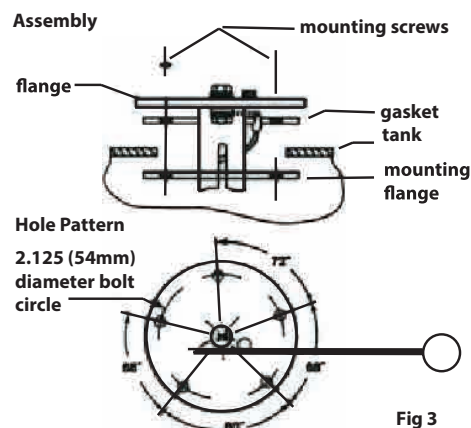

Fig 3
2. Slide the rubber gasket up to the bottom of the fuel sender flange. Then slide the second flange over fuel sender to bottom of rubber gasket. Align the pre-threaded holes in mounting flange and rubber gasket with those in fuel sender flange. Use 25 mm screw to loosely attach mounting flange. Do not tighten completely. (Refer to Fig. 3)